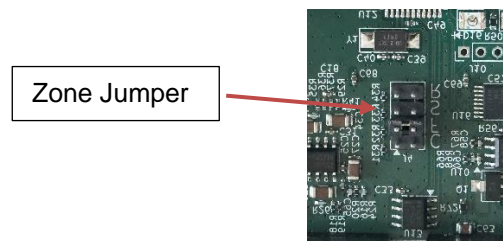

FIGURE 2
- j. On the Helios Temperature Control board, install the jumper to select the applicable zone position, Center, Front, Side or Rear (See Figure 2).
- k. On the Helios Temperature Control board, verify the jumper to select the applicable zone position, Center, Front, Side or Rear are correct on each board (See Figure 2). The top to bottom orientation of the boards should be Center, Front, Side and Rear.